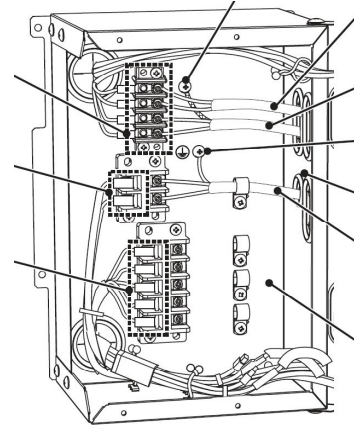
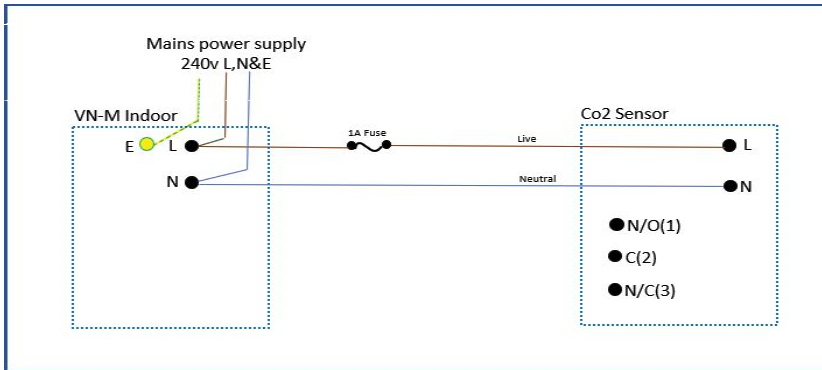

fig 1
fig 2
The sensor requires a 230 vac power supply, which can be obtained via terminals R(L), S(N) & Ground (Earth), at the VN-M’s electrical control box,(fig 1).
Connect a two core cable, (L & N), minimum size 0.75/1.0mm2 - 25m, from the sensor terminals L (4) & N (5), (fig 6), to the L & N terminals, at the VN-M unit,(fig 1),insert the in-line fuse in the Live wire, using the blue in-line crimp supplied, terminating at terminal L, (fig 2).